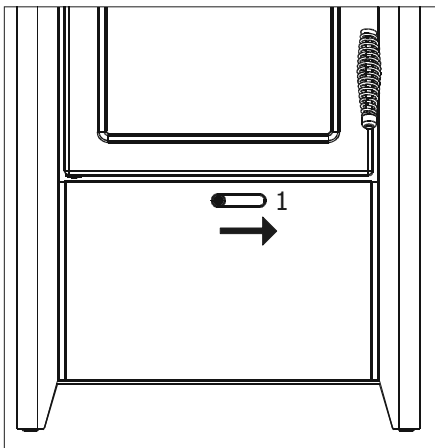

Fig.5 Primary air inlet
The lever turned towards the right (pos.1) is designed to bring a large quantity of primary air beneath the combustion chamber fire plane, to allow rapid and effective ignition of the fire (fig.5).